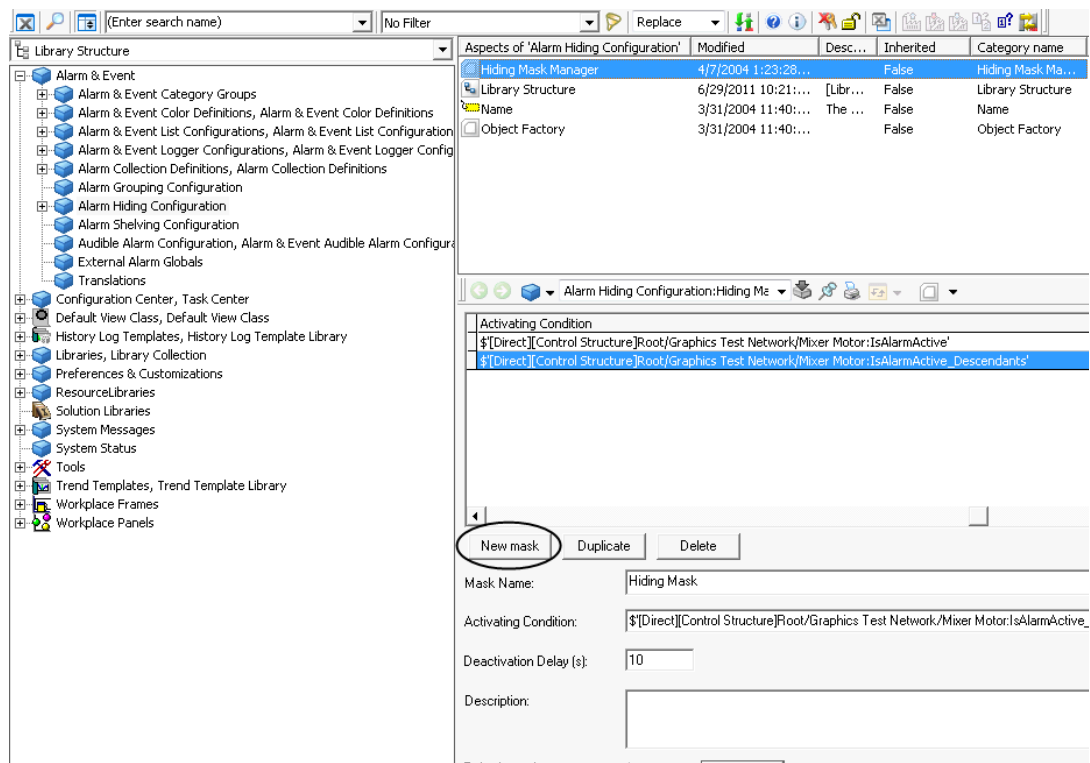

Figure 39. Alarm Hiding Configuration
- 1. Navigate to the **Library Structure > Alarm & Event > Alarm Hiding Configuration**, refer to Figure 39.